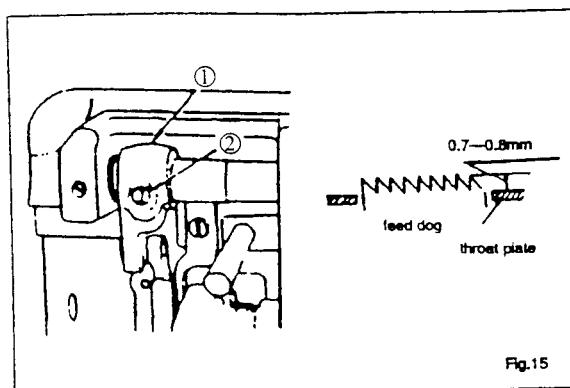

Fig.15
13. Height of feed dog (Fig. 15)